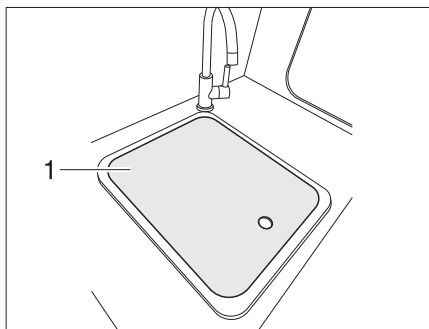

Fig. 3 Sink cover
► In case of an accident or emergency braking the sink cover (Fig. 3,1) can injure the vehicle passengers. Before the journey, take the sink cover off the sink and store it securely in the kitchen block or wardrobe.